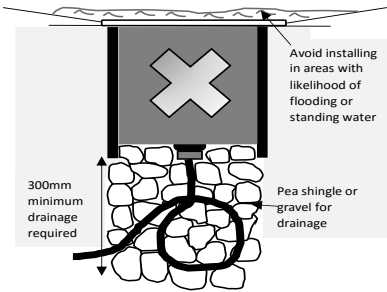
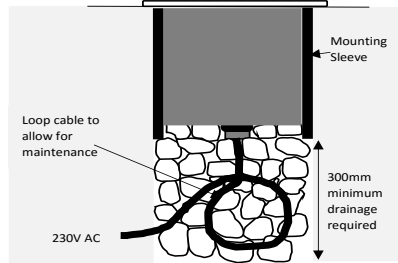
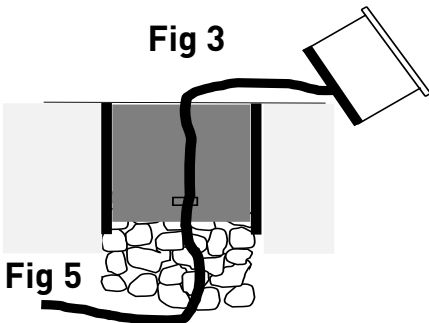

Fig 3
Fig 4
Fig 5
- Avoid installing in areas where water will sit on top of the fitting for long periods of time (see Fig 3)
- Ensure a minimum of 300mm drainage is put in below the luminaire (see Fig 4).
- Ensure there is enough cable below the fitting in order to carry out maintenance work. The final circuit connection should also be accessible (see Fig 3, Fig 4 and Fig 5)